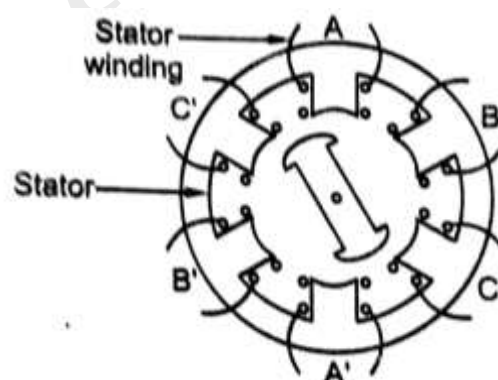

Figure: 1
- The rotor is made out of slotted steel laminations and has two salient poles (or teeth) without any exciting windings as shown in the figure 1. The basic drive circuit is shown in fig.2.